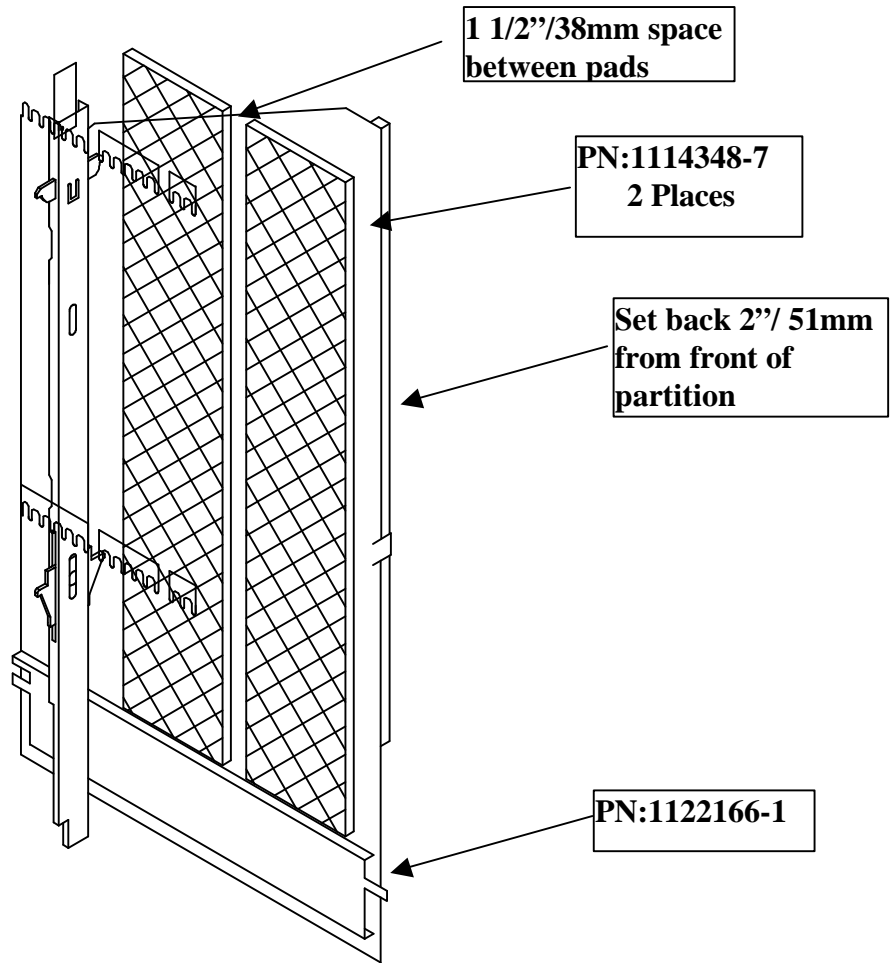

Figure 1
*Install magnetic column spacers into right side of partition above product side spacer (See Figure 1 for installation detail)
Installation (see Figure 1)
Locate pads as shown in Figure 1 above the .74 product side spacer (P/N1122166-1)